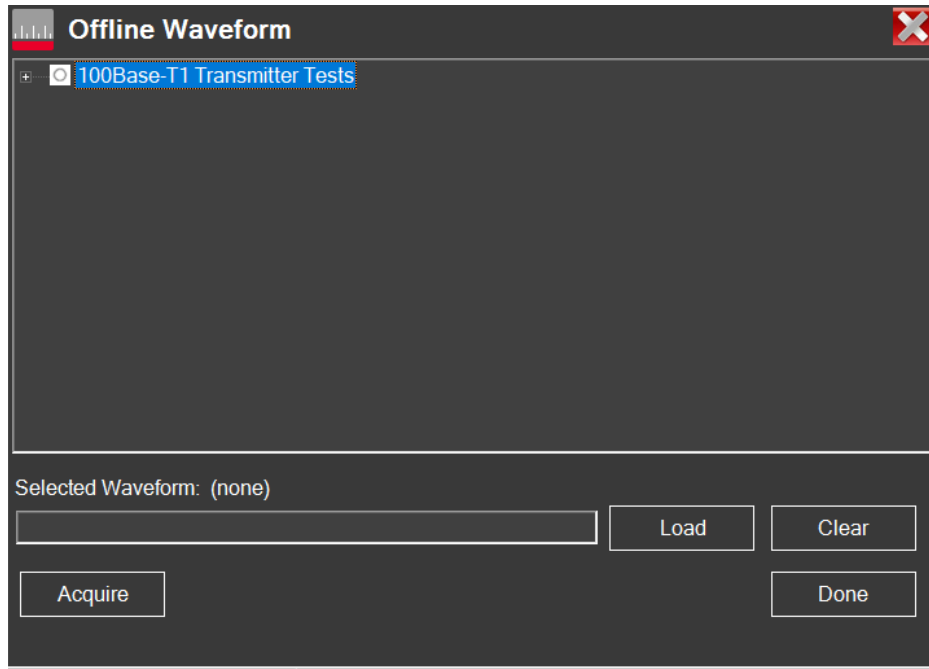

Figure 8-48 Offline Waveform dialog box
- 2 Click **+** to expand and view the available waveform types for each test mode as shown in Figure 8-48.